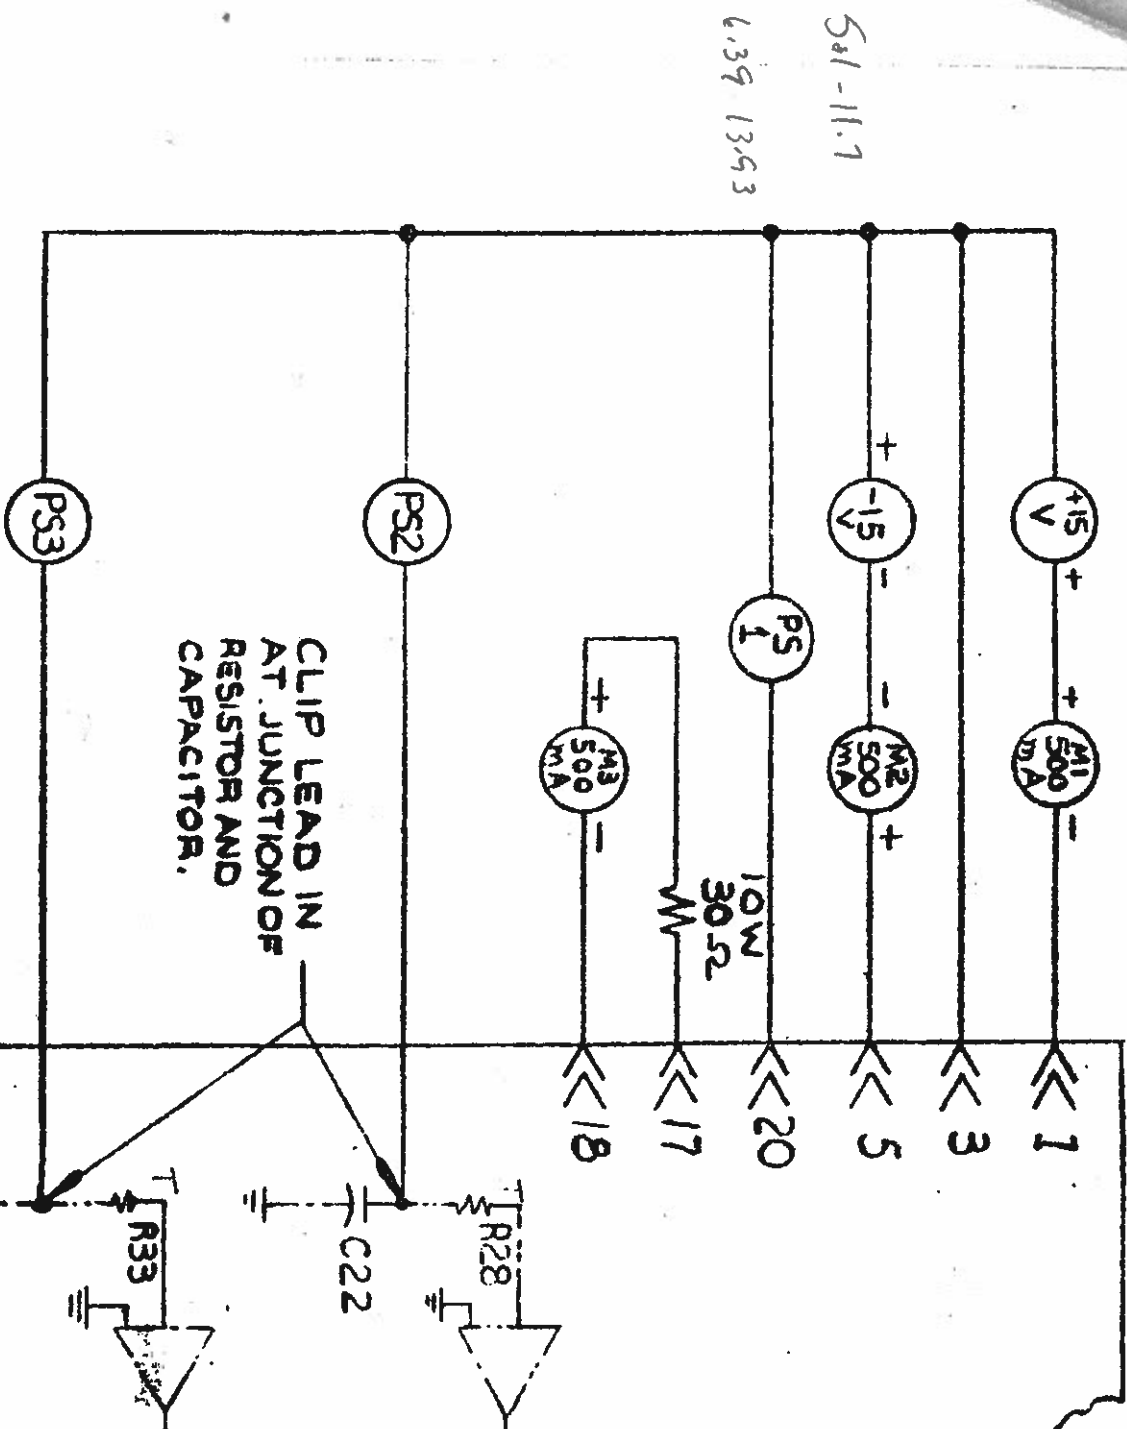

FIG 1
2. Connect the circuit as shown in Fig. 1. Note that PS2 and PS3 are clipped in at the junction of C22 and R28, and C24 and R33 respectively. Turn on power and observe that M1 and M2 read less than \_\_\_\_\_ Ma.